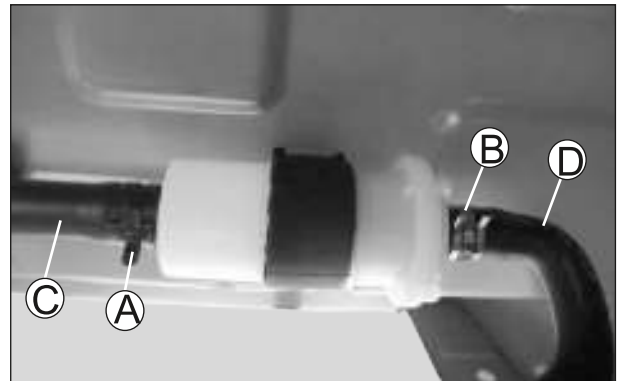

Fig. 4.41
- Dislocated the hose clip (A & B) from hose air inlet and hose sai inlet. Pull out both hoses (C & D) from air filter SAI. (Fig. 4.41)